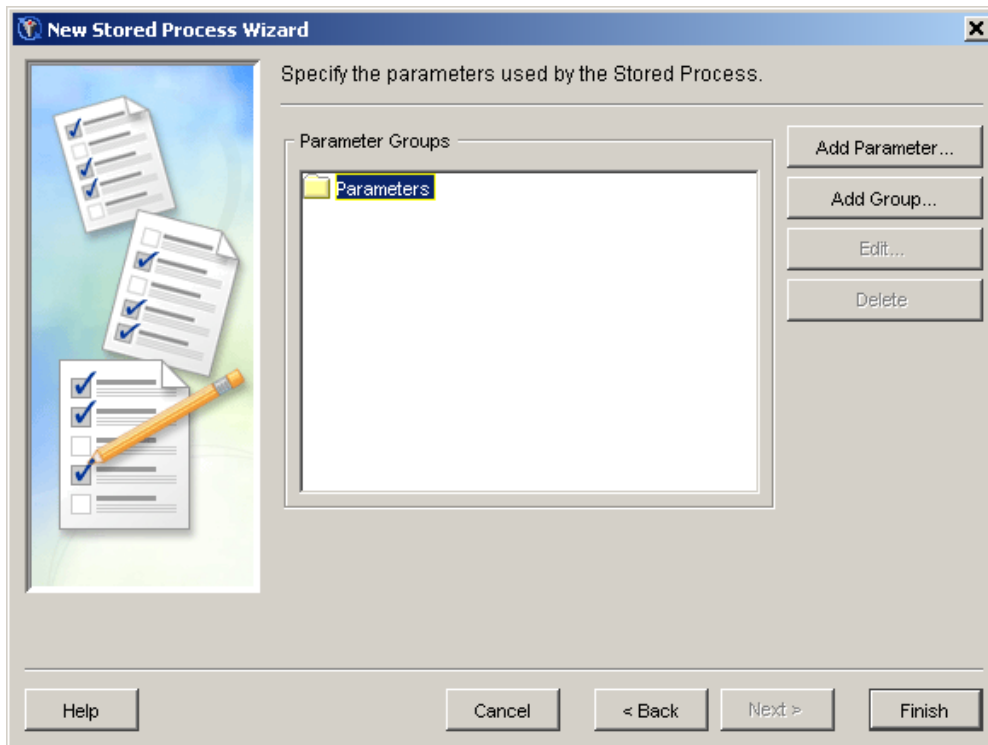

Figure 5. Parameters screen
- c. The next screen is the Parameters screen (see Figure 5). Do not add any parameters for this program. Click FINISH.